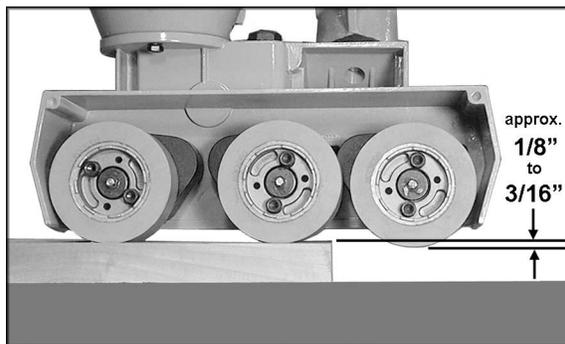

Figure 15
- When used in normal horizontal position, the stock feeder should be adjusted for height so that the distance between the table and the feed rollers is approximately $1/8''$ to $3/16''$ (3 to 5mm) less than the thickness of the workpiece. See Figure 15.
- When mounting the Stock Feeder in edgewise position, keep in mind the spring tension of the rollers. The distance between the shaper fence and the feed rollers should be approximately $1/8''$ to $3/16''$ (3 to 5mm) less than the thickness of the workpiece (refer to Figure 15).